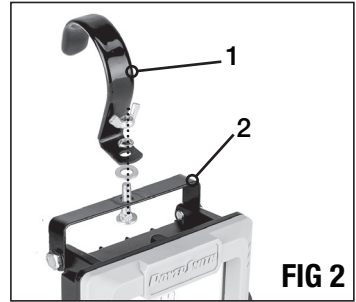

FIG 2
## ATTACHING THE HOOK (FIG 2)
Attach the metal hook (1) to the bracket (2) using the bolt, washers and nut, as shown in FIG 2.